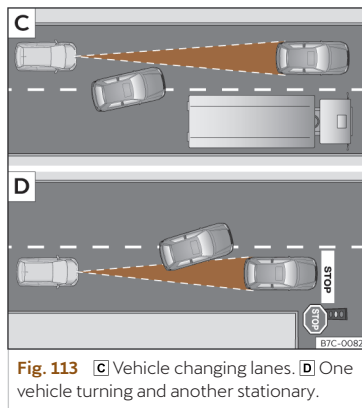

Fig. 113 [C] Vehicle changing lanes. [D] One vehicle turning and another stationary.
- Vehicles that move into your lane, a short distance from your vehicle >>> **Fig. 113** [C].
The ACC does not react to stationary vehicles. If, for example, a vehicle detected by the ACC turns or moves over and there is a stationary vehicle in front of it, the ACC will not react to the second vehicle >>> **Fig. 113** .